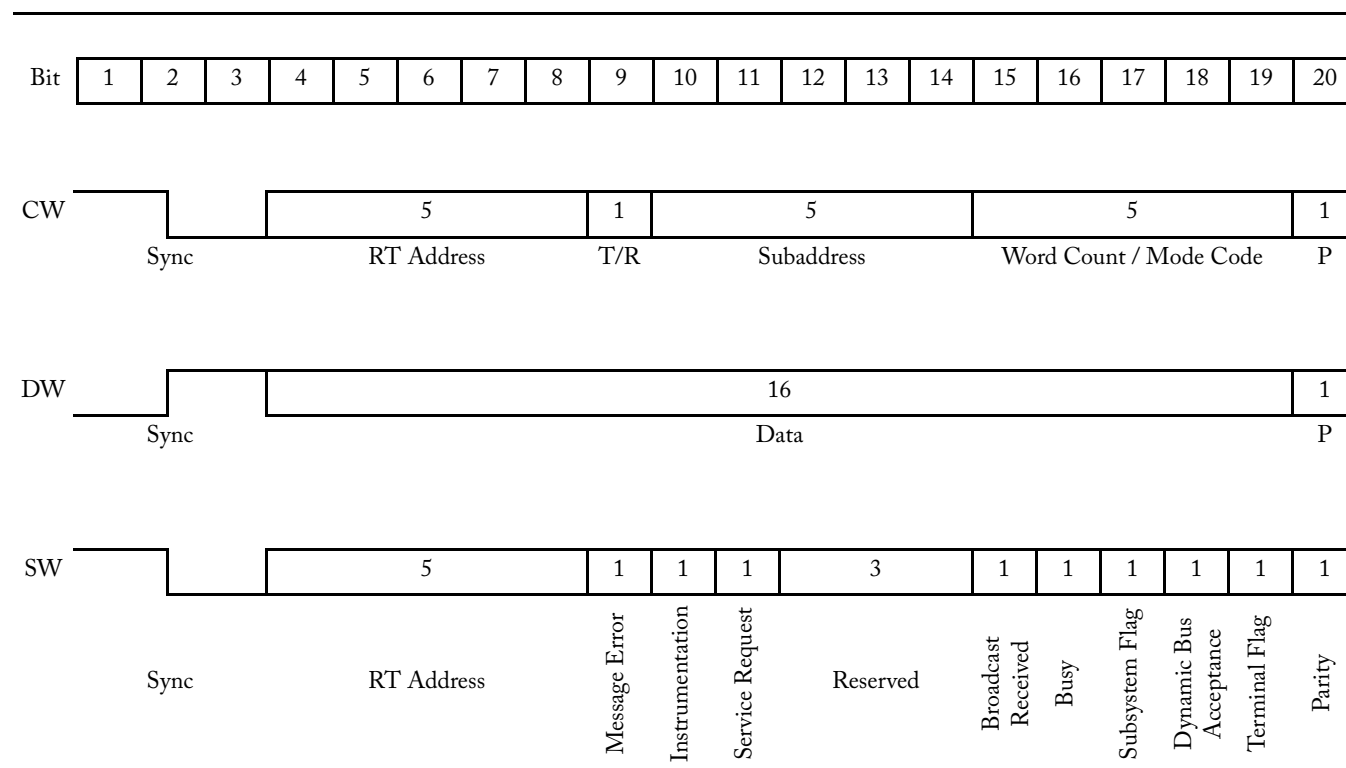

Figure 1-2 · 1553B Word Formats
There are only three types of words in a 1553B message: a command word (CW), a data word (DW), and a status word (SW). Each word consists of a 3-bit sync pattern, 16 bits of data, and a parity bit, providing the 20-bit word (Figure 1-2).